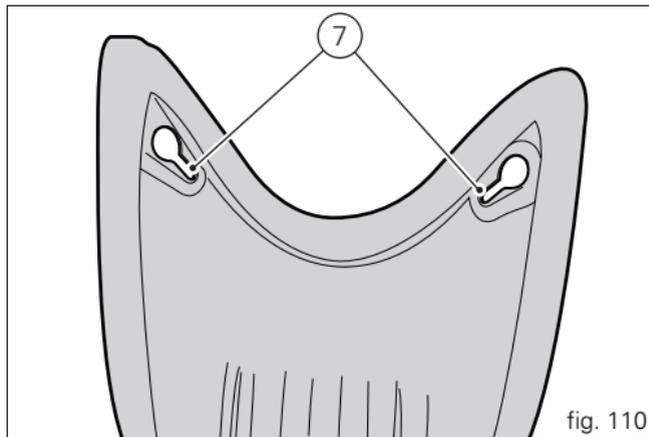

fig. 110
Position the front part of the rider seat (4), with slots (7, fig. 110), in the pins (6, fig. 109) of the tank.